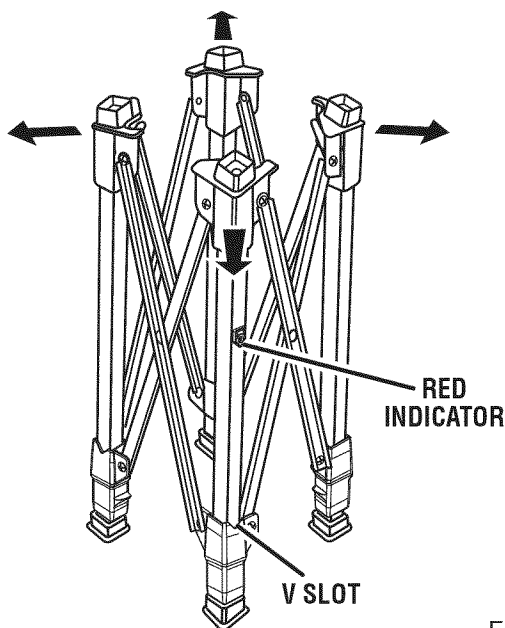

Fig. 6
See Figures 6 - 7.
- Keeping fingers and all body parts away from the stand's moving parts, open the leg stand by pushing opposite legs in opposite directions as indicated by the arrows in figure 6. The stand will be fully opened when the red indicator rests in the V slot of the grip.